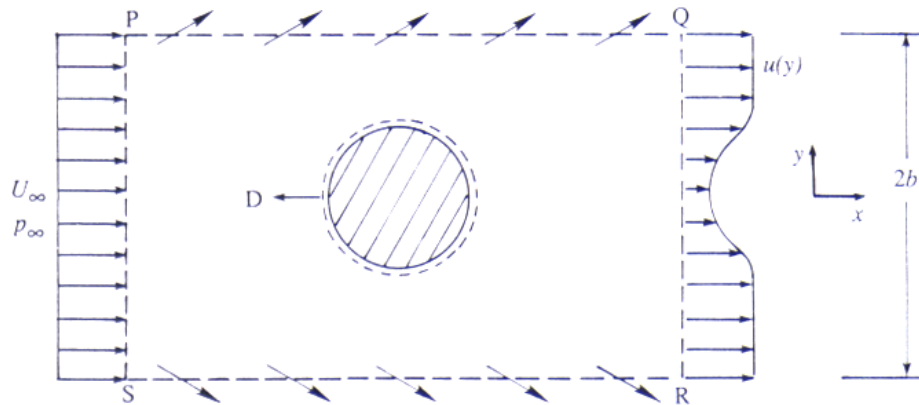

Fig. 7
7. Consider an experiment in which the drag on a two-dimensional body immersed in a steady incompressible flow can be determined from measurement of the velocity distributions far upstream and downstream of the body (see Fig. 7). Velocity far stream is the uniform flow U_∞ , and that in the wake of the body is measured to be $u(y)$, which is less than U_∞ due to the drag of the body. Find the drag force per unit length of the body.